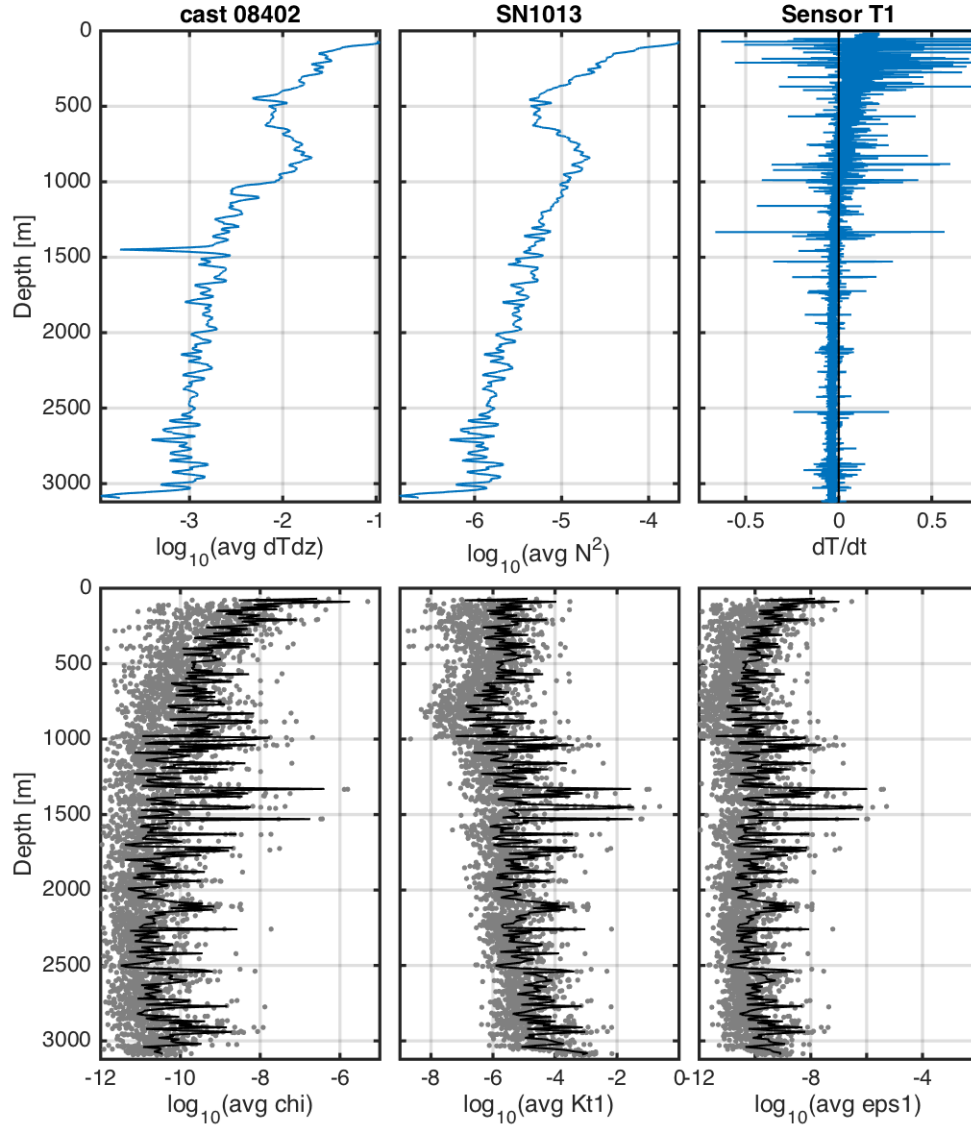

Figure 8: Results of chipod calculation for one cast. Black lines in lower panel are 10m binned averages.
- `cast_001_upcast_chi_SN600_T1_avg_chi_KT_dTdz` (Figure 8). Summary of the final data ('avg' structure).